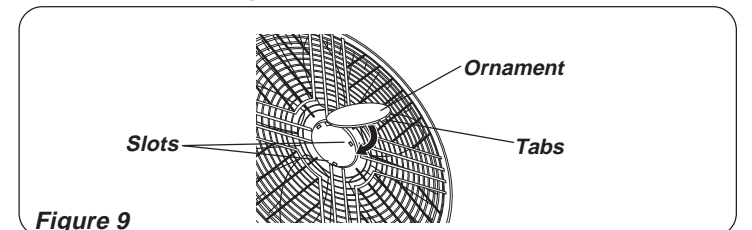

Figure 9
5. Install **Ornament** into **Front Grill**. Insert **Tabs** into rectangular **Slots**. Snap into place. (**Figure 9**)